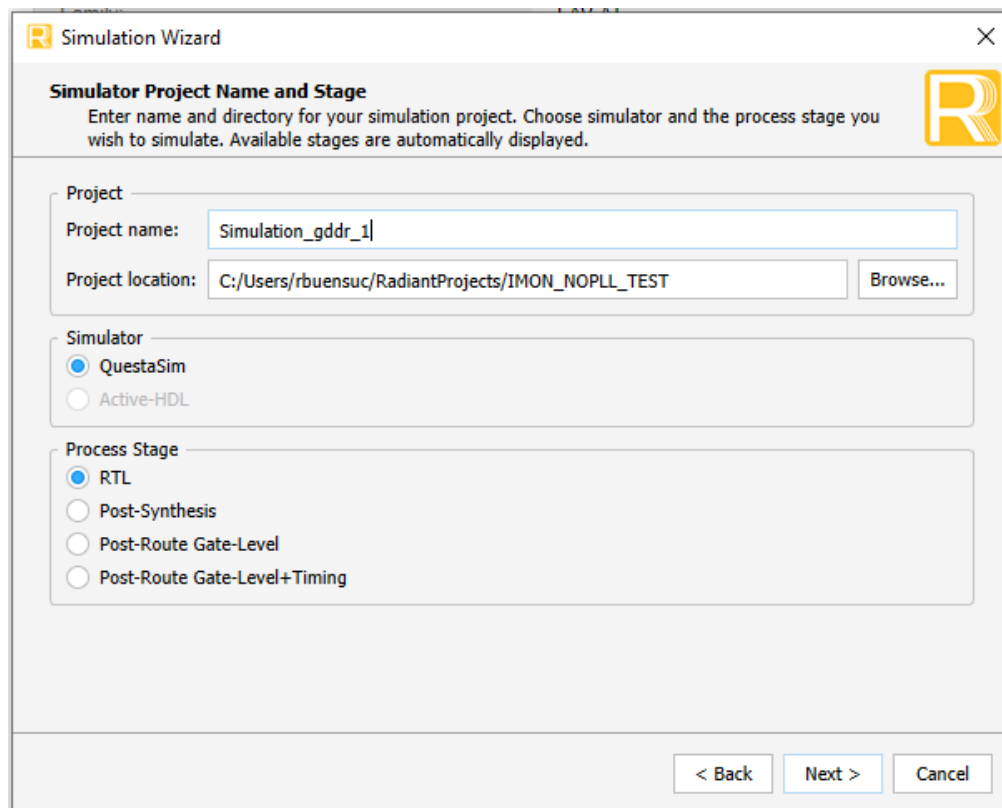

Figure 3.4. Simulation Wizard
1. Click the  icon located on the **Toolbar** to initiate **Simulation Wizard**, as shown in Figure 3.4.